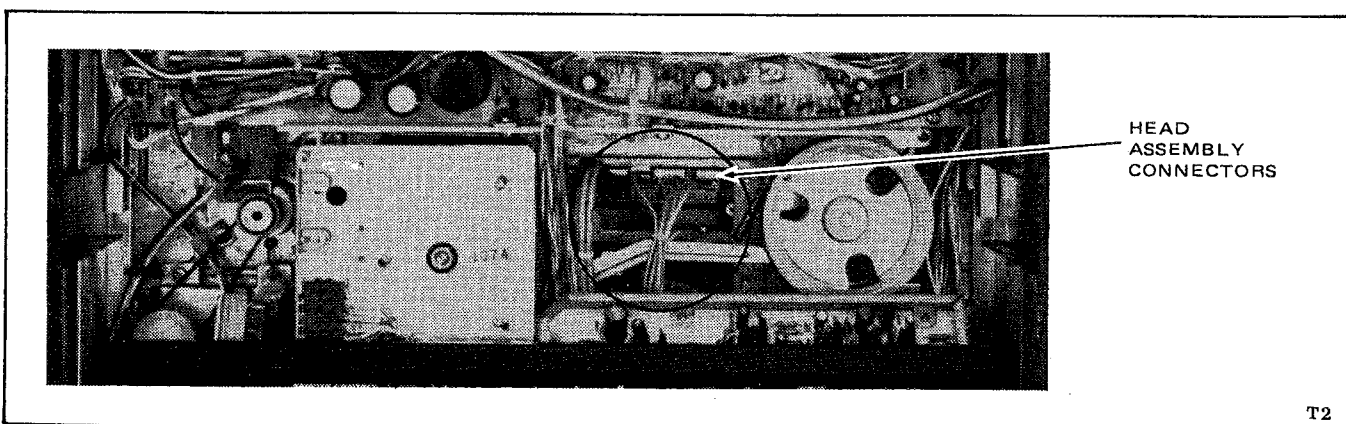

Figure 5-23. Head Assembly Connectors
2. With rear center panel removed, reach through the rear of the machine and remove the three connectors mounted on the rear of the head assembly (shown in Figure 5-23).